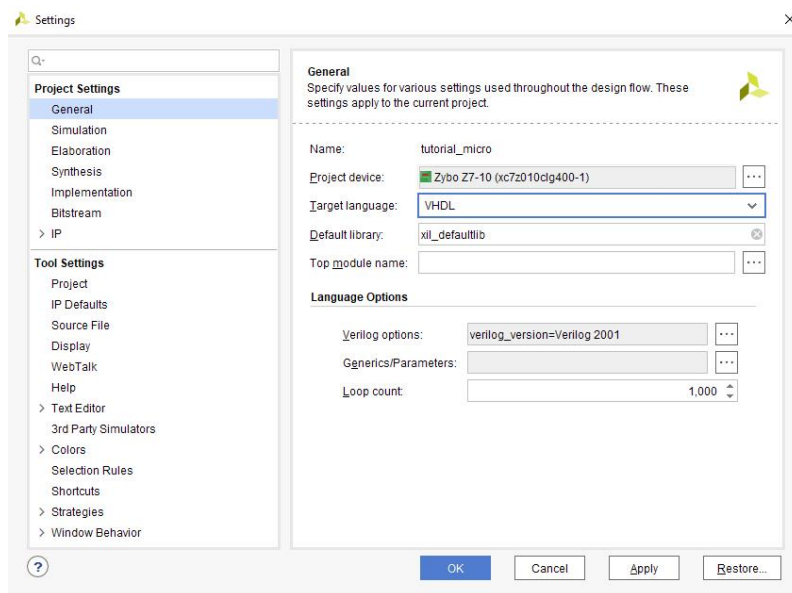

Figure 18
3. Choose **VHDL** as **Target language** (Figure 18), and click **OK**